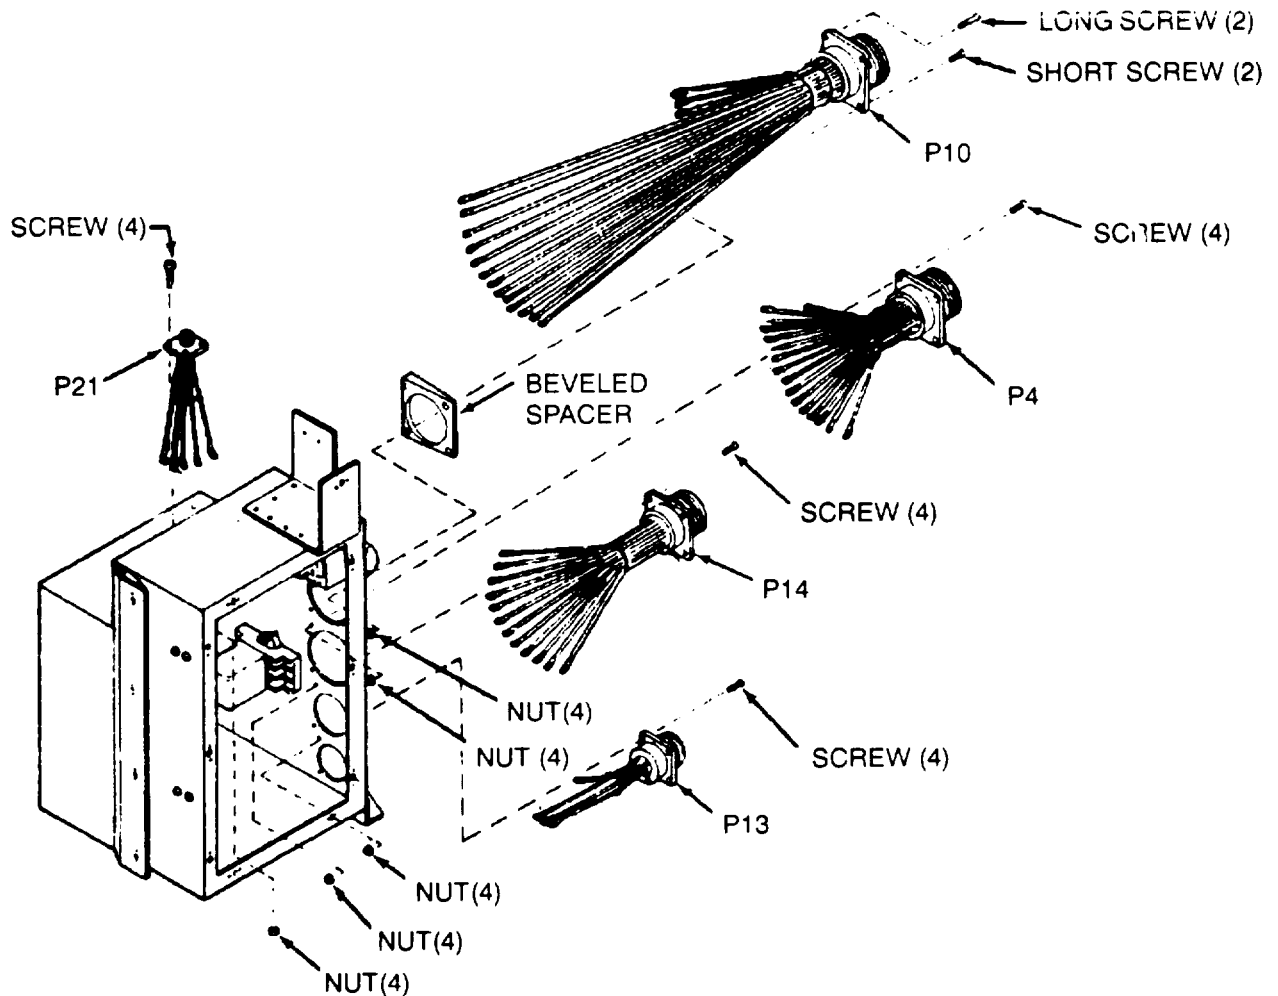

Figure 4-64. Junction Box Harnesses
- (1) See paragraph 4-36 for general wire repair instructions.
- (2) See Table 4-3 (Wire List) for wire lengths and terminal/connector information.
- c. Removal/installation. See Figure 4-64 for removal/installation information.